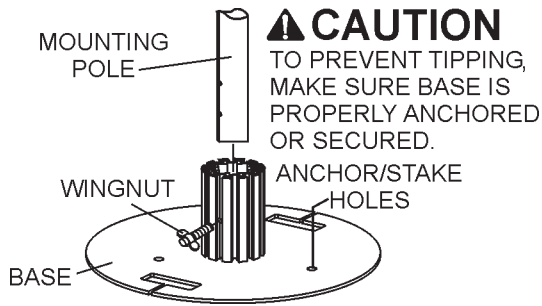

Figure 18. MBP Mounting Pole Assembly
1. Insert the pole (see Figure 18) into the base and secure by tightening the wing nut on the base.